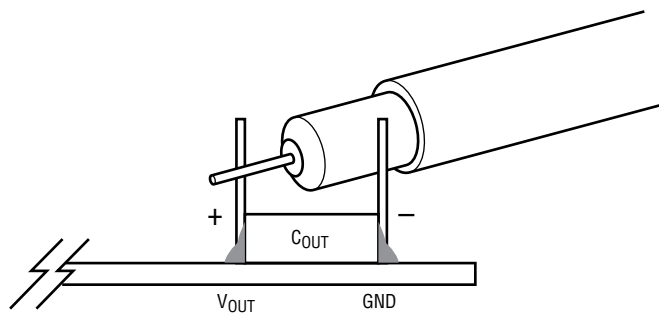

Figure 3. Measuring Output Voltage Ripple
2. When measuring the output or input voltage ripple, do not use the long ground lead on the oscilloscope probe. Figure 3 for the proper scope probe technique. Short, stiff leads need to be soldered to the (+) and (-) terminals of an output capacitor. The probe's ground ring needs to touch the (-) lead and the probe tip needs to touch the (+) lead.